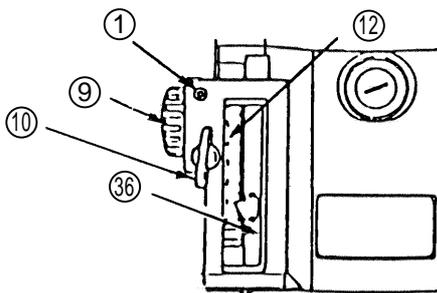
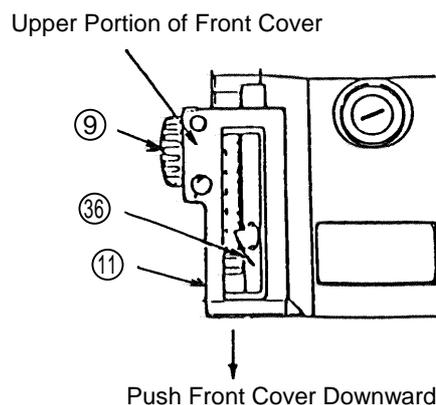

Fig. 14
Fig. 15
- (7) Remove the Knob Pinion ⑨: (Figs. 14 and 15)
- (a) To remove the Knob Pinion ⑨, it is first necessary to remove the End Bracket ④① and Armature ⑰ from the Housing Ass'y ⑳ as described in Paragraph (4), above.
- (b) Loosen and remove the D4 x 20 Tapping Screw ① and the M6 x 27 Wing Bolt ⑩.
- (c) Grasp the upper portion of the Front Cover ⑪, and pull it slightly toward you. In this position, push the Front Cover ⑪ downward in the direction indicated by the arrow mark in Fig. 15 to disconnect and remove the interlocking claw of the Front Cover ⑪ from the Housing Ass'y ⑳.
- (d) Remove the Scale ⑫ and Stopper Pole ⑳. Then, remove the Knob Pinion ⑨ from the Housing Ass'y ⑳.
- (e) Remove the Scale Stopper ⑬.